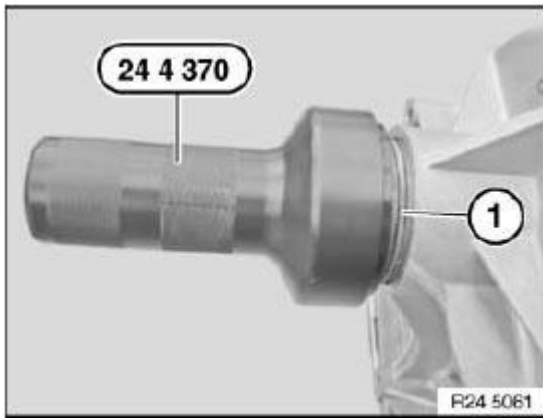

Fig. 38: Identifying Radial Shaft Seal
Drive radial shaft seal (1) firmly home with special tool 24 4 370 . See **Fig. 38**.